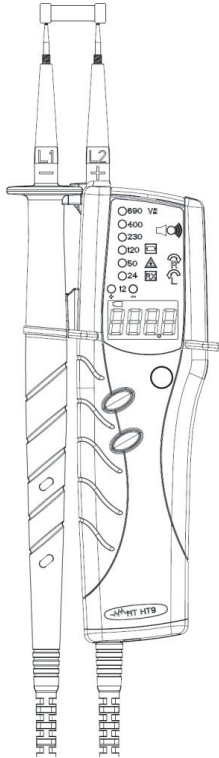

Fig. 6: Continuity test
1. Connect the measuring leads L1 and L2 to the object to be tested (see Fig. 6)